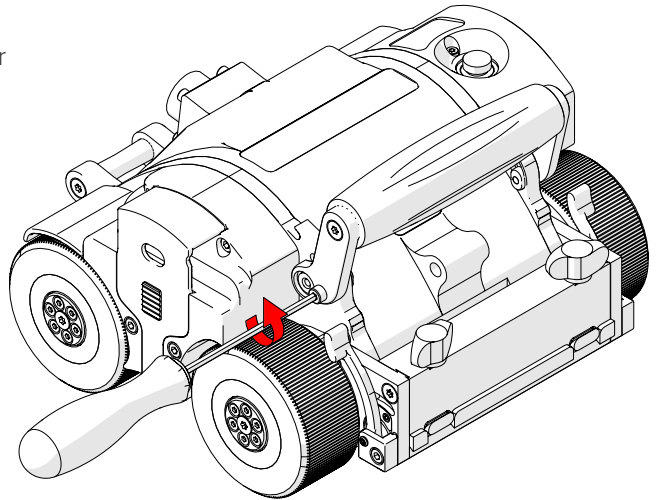

Fig. 84 - Unscrew handle lock screw
1. To lower the handle, use the supplied 3 mm driver to loosen the handle lock screws on either side of the handle (Fig. 84).